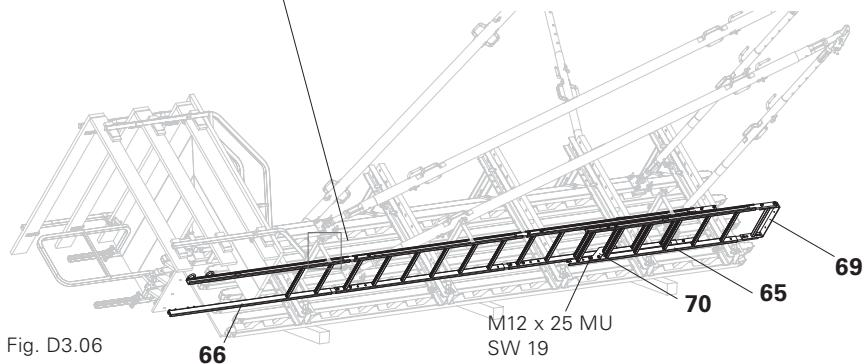

Fig. D3.06
3. Connect End Ladder 180/2 (66) with Ladder 180/6 (65), M12 x 25 MU, SW 19. Depending on the height, additional Ladders 180/6 are mounted.
4. Mount Ladder Hooks (70) and Ladder Base (69) to the bottom-most ladder, SW 19. (Fig. D3.06)